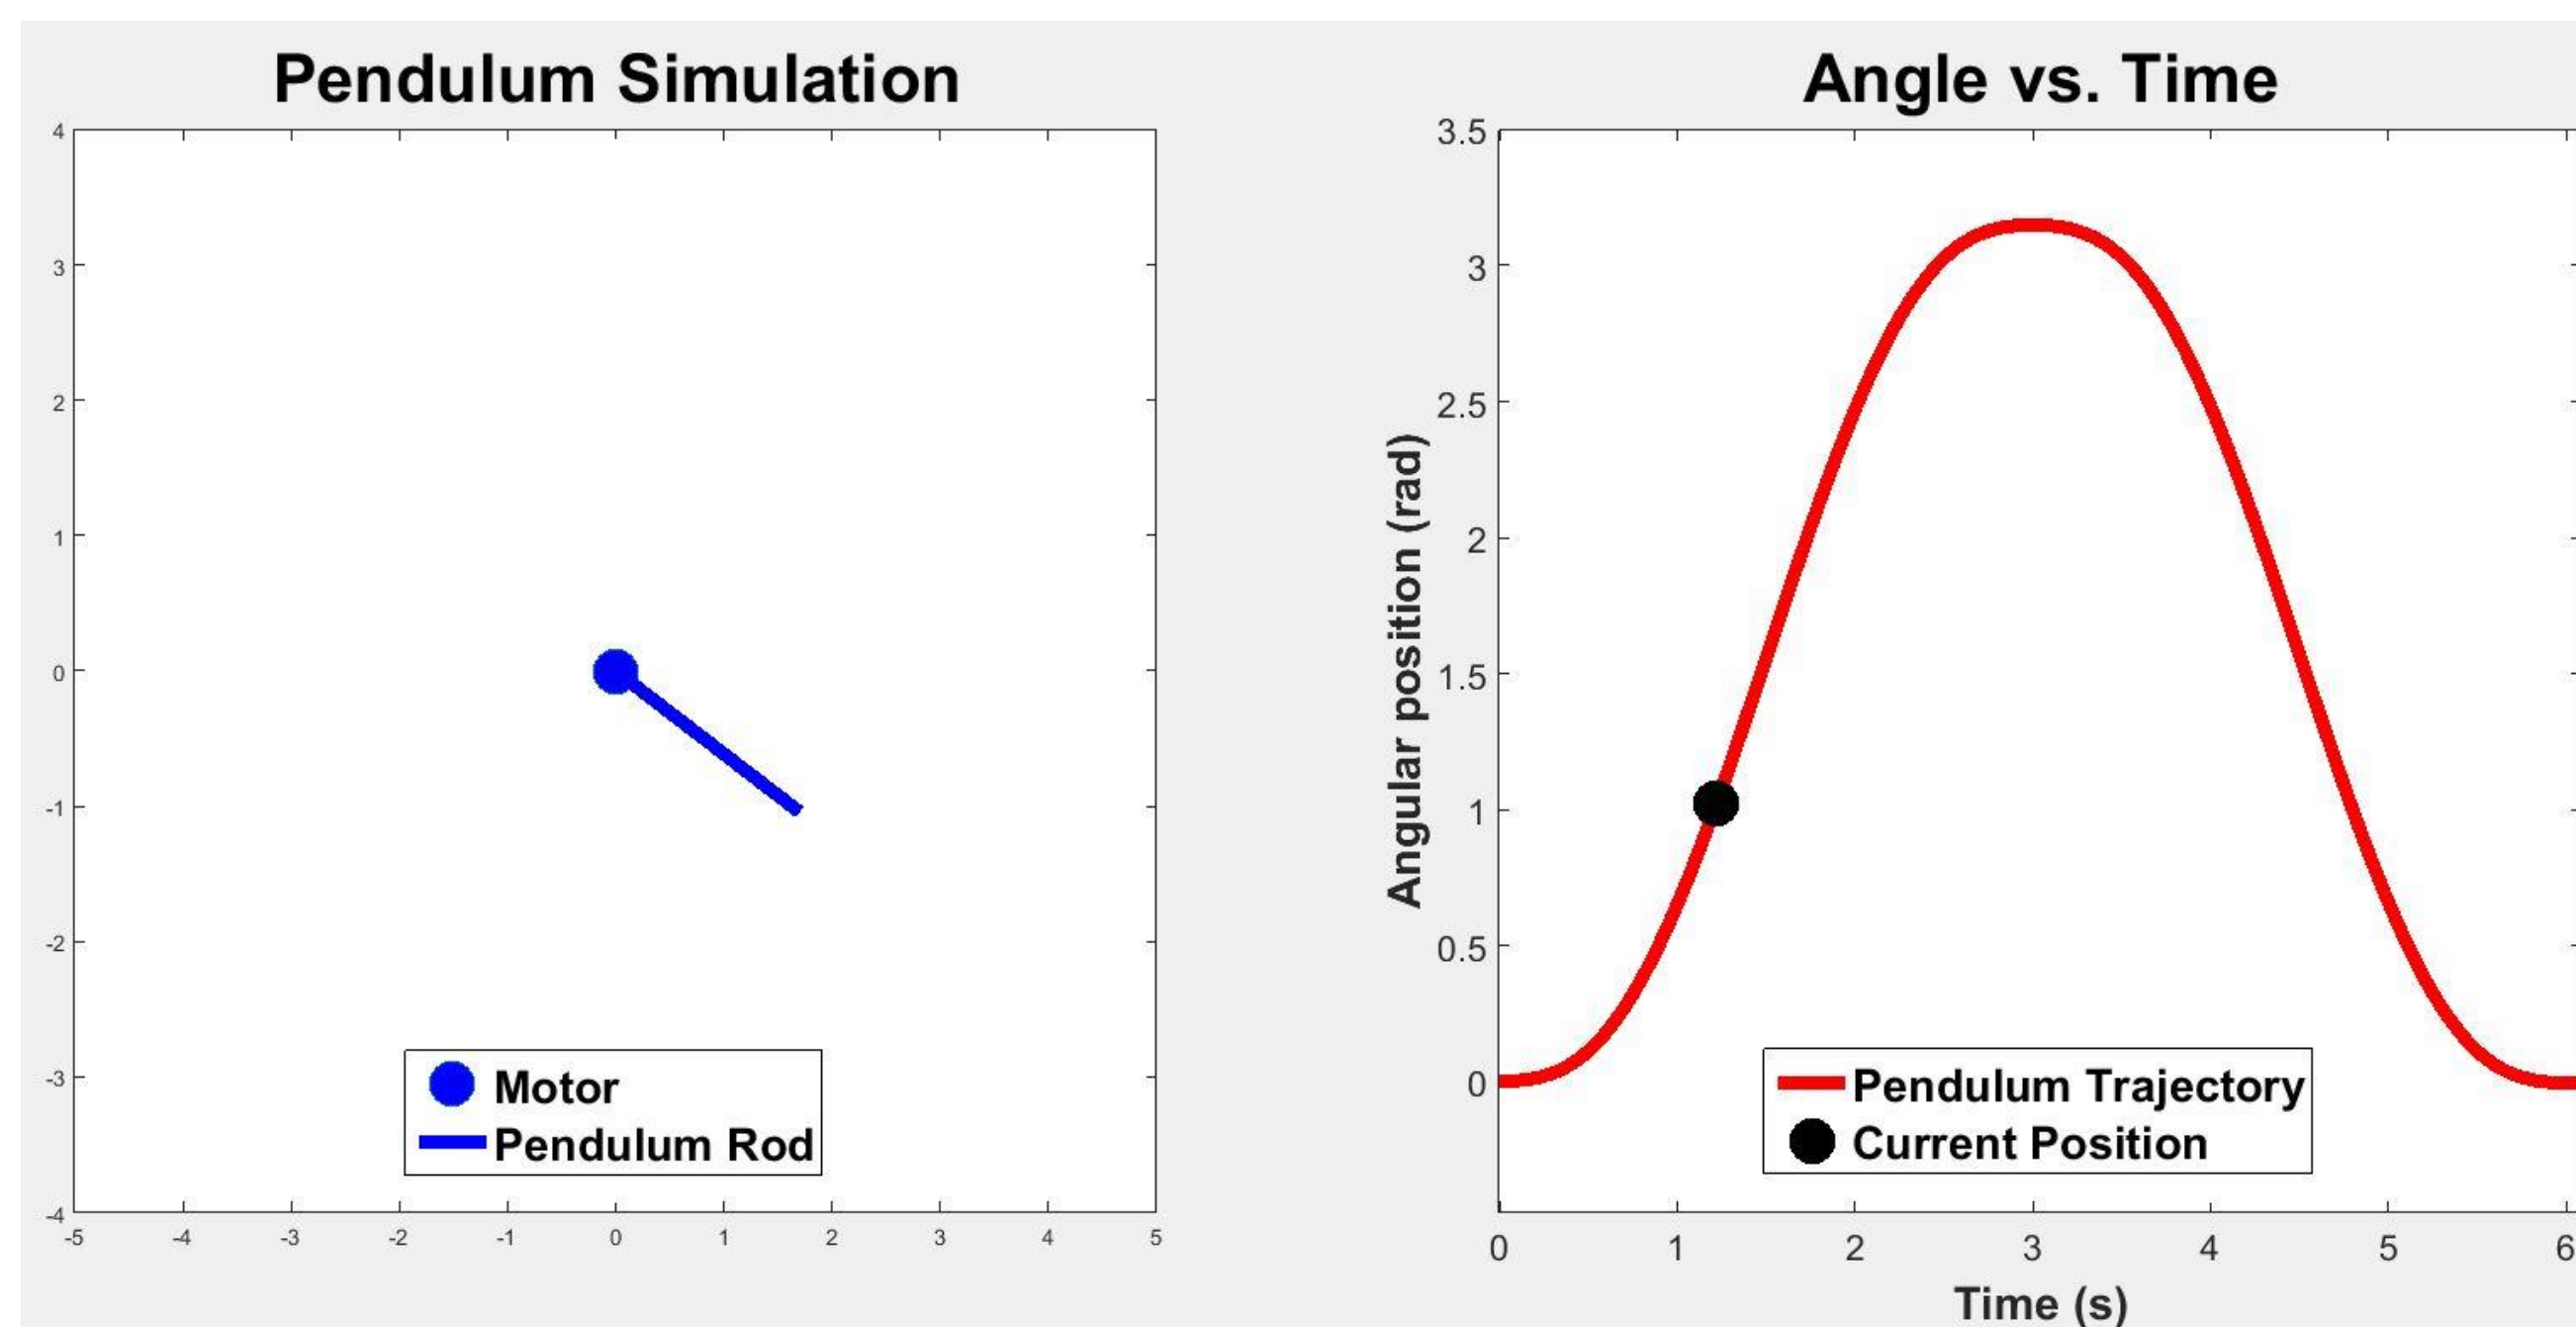

Figure 1: Pendulum Simulation
- Create a pendulum simulation in MATLAB using torques to drive a rod (*Figure 1*).